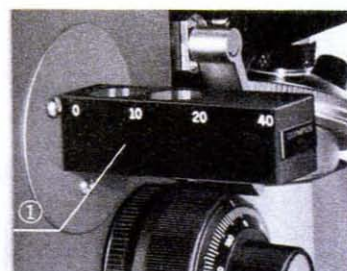

Fig. 7
1) Move the phase annulus slide ① until the magnification index engraved on the slide matches the objective magnification in use (Fig. 7).
- 7) Match the phase annulus slide at the "10" position (Fig. 7).